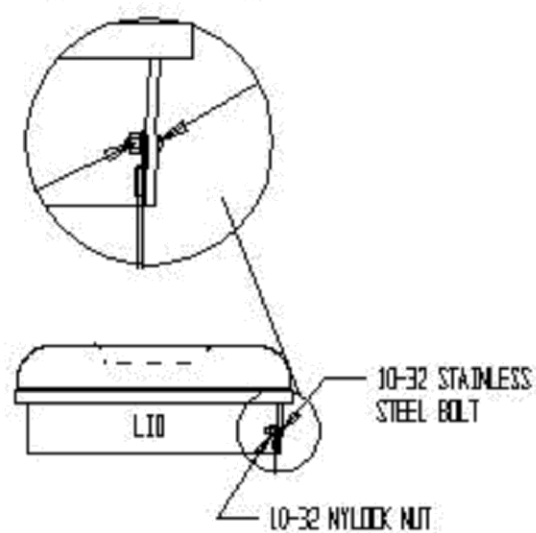

FIGURE 4
4. Connect cable guide to the body. See figure 4.